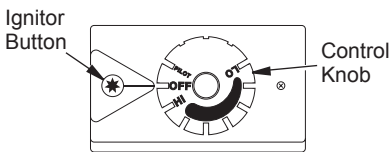

Figure 34 - Control Knob In The OFF Position
4. Wait five (5) minutes to clear out any gas. Then smell for gas, including near the floor. If you smell gas, **STOP!** Follow "B" in the safety information in column 1. If you don't smell gas, go to the next step.
5. Turn control knob counterclockwise  to the PILOT position. Press in control knob for five (5) seconds (see Figure 34, page 22).